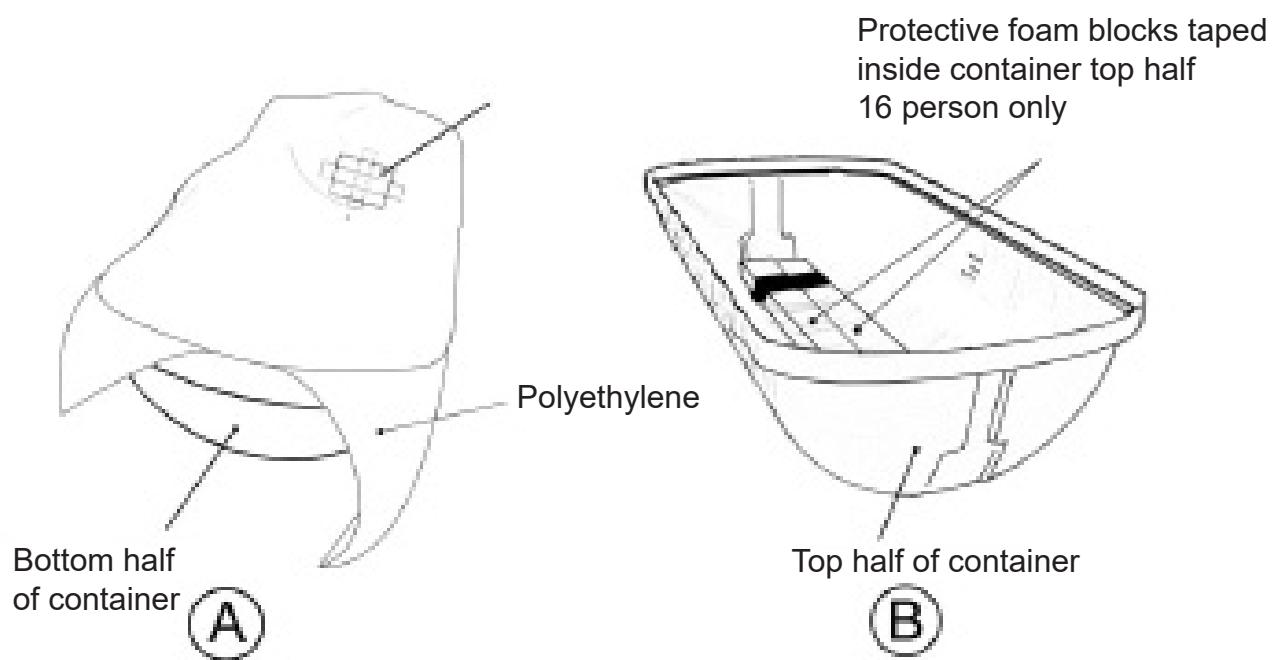

FIGURE 818
4.2.2 Attach a protective foam block to the inside of the container. Refer to FIGURE 818 Detail A. Put the protective foam block in the centre. This protective foam block prevents the cylinder operating head from impacting the container side during handling and deployment.
(c) Line the bottom half of the container with a polyethylene sheet. Refer to FIGURE 818 Detail A.
4.2.5 16 Persons ONLY: (TO and DL): Fix two lengths of protective foam blocks to the top half of the container. Refer to FIGURE 818 Detail B.